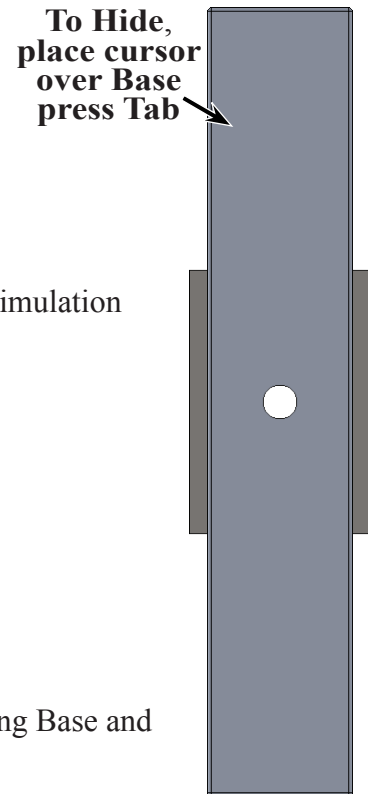

Fig. 10
Step 2. **Hide Base Part.** To hide, move cursor over the Base and press **Tab** key on keyboard, **Fig. 10**.